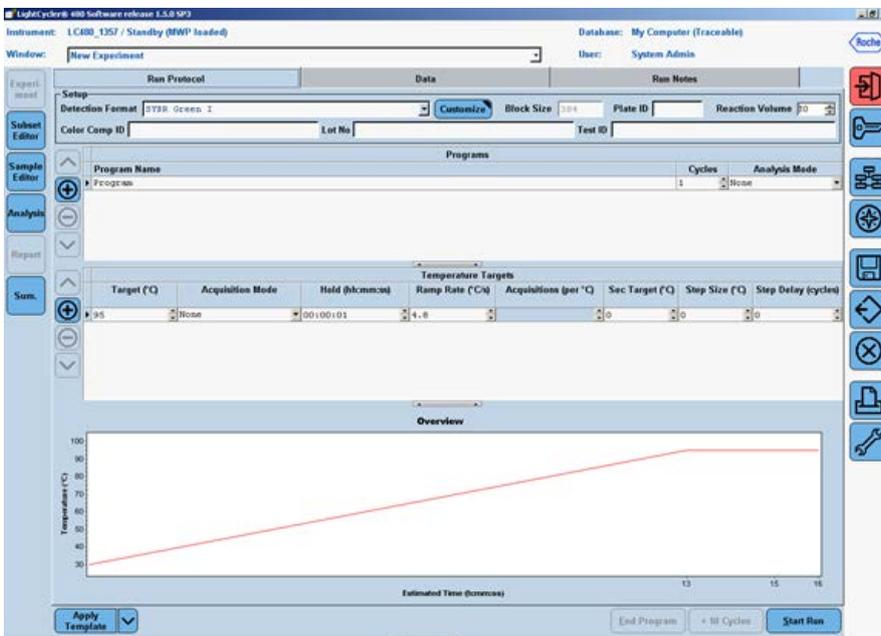

Figure 2. Initial run protocol window.
5. In the “Setup” area at the top of the “Run Protocol” tab (Figure 2), specify the following setup parameters: